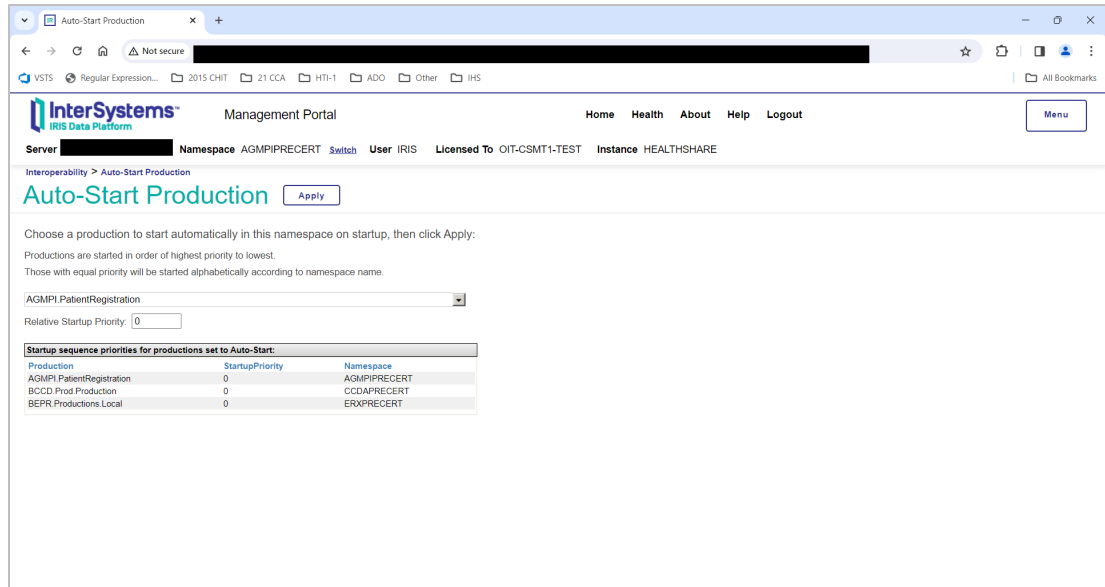

Figure 8-7: Auto-Start Production page, Home link
- Click **Home** on the top of the page, as shown in Figure 8-7 to return to the **Management Portal** page.